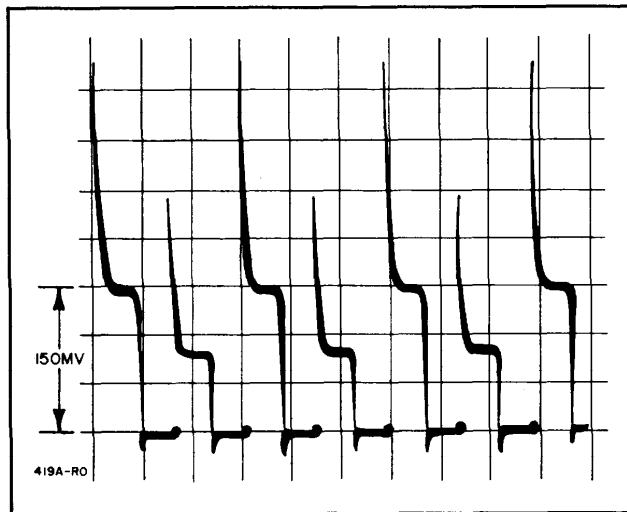

Figure 5-4. Neon Drive Waveform (A2TP2)
- d. Adjust A2R9 (FREQ.) for Electronic Counter indication of 320 to 340. (This corresponds to chopper rate of 160-170 pps as Electronic Counter also counts smaller pulses.) Adjust A2R5 (NEON CURRENT) for waveform amplitude of 140 to 160 mV. Figure 5-4 shows the chopper waveform.